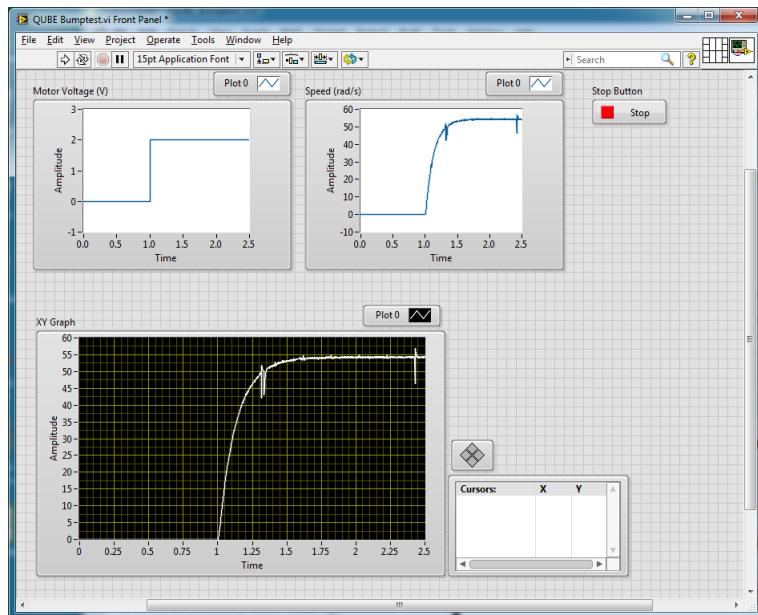

Figure 4.3: QUBE-Servo Bump Test Response
- Run the VI to apply a 2 V step to the servo. The scope response should be similar to Figure 4.3.